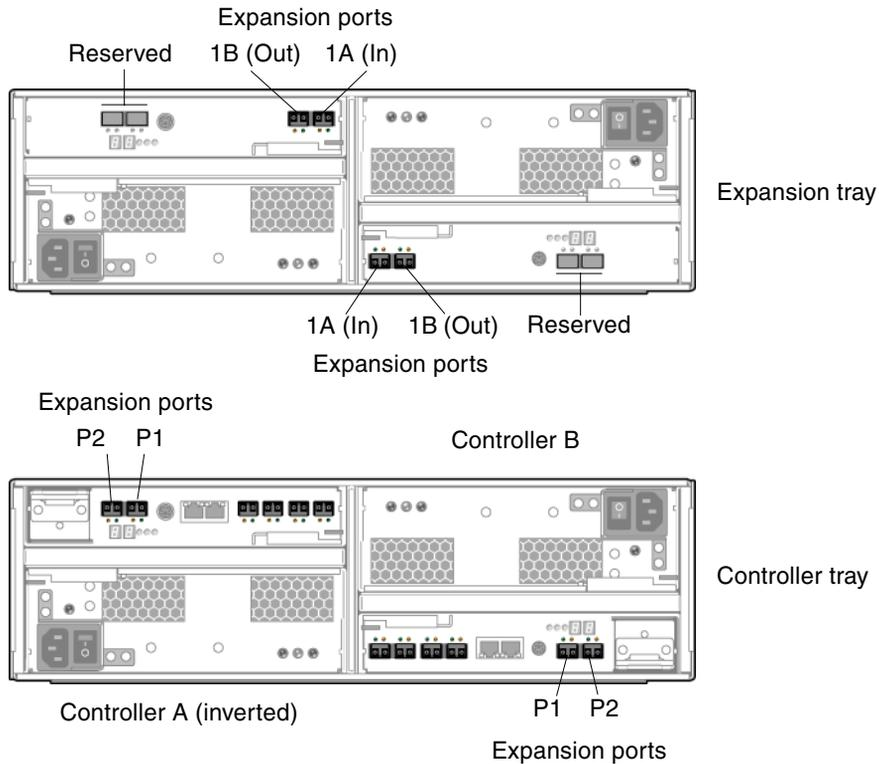

FIGURE 2-22 Expansion Ports on the Controller and Expansion Trays
This section describes how to cable a controller tray to expansion trays for several different configurations. The controller tray uses Controller A and Controller B expansion ports to connect to FC-AL ports at the back of each expansion tray (FIGURE 2-22).
1. Locate the Controller A and Controller B expansion ports at the back of the controller tray (FIGURE 2-22).
2. Locate expansion ports 1A (In) and 1B (Out) at the A-side and B-side back of the expansion tray (FIGURE 2-22).
2. Locate the expansion ports 1A (In) and 1B (Out) at the A-side and B-side back of the expansion tray (FIGURE 2-22).